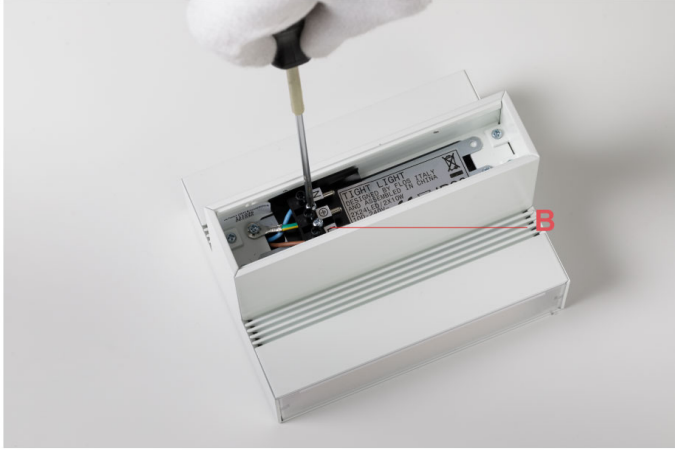

Fig.4
- Unfasten the two connector fixing screws (B). (Fig.4)
Fasten the two screws (B) of the male connector. (Fig.4 page 7)